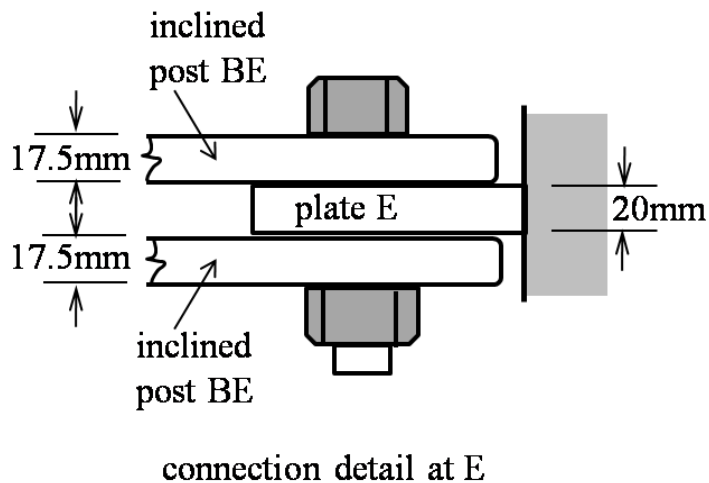

Figure 2 / Rajah 2
- (b). A rigid vertical member ADBC in **Figure 2** is supported by a hinged joint at A and connected to a pair of inclined post BE by a hinged connection at B. The inclined posts are supported by a hinged support at E. Cross-sectional sizes of rigid vertical member ADBC and inclined post BE are 25 mm x 275 mm and 17.5 mm x 225 mm, respectively. Two concentrated loads P_1 and P_2 act on the rigid vertical member at points C and D, respectively. Details of connections at A, B and support E are also shown in the figure. Diameters of bolt used at support A, connection B and support E are 20 mm, 17.5 mm and 20 mm, respectively.